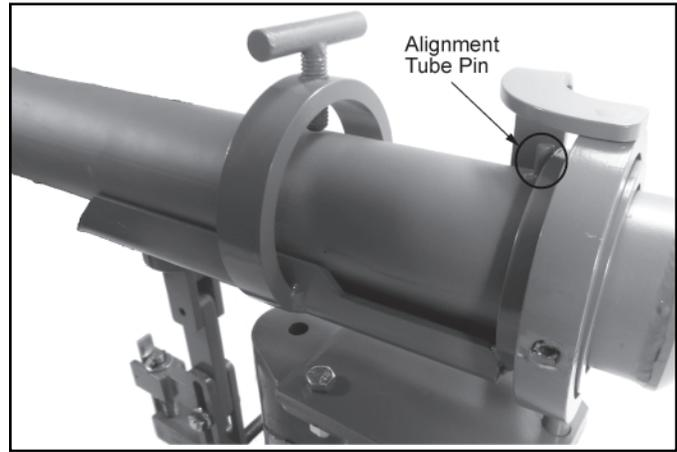

Figure 2.
The bracket has a vertical adjustment of ± 1 inch, an axial rotation of 360° , and angular adjustments of $\pm 7^\circ$ on both the vertical and horizontal axis. Since positioning the bracket in reference to the socket plate is essential for proper use of the bracket, an alignment tube is supplied to accurately simulate the burner position, see Figure 2.
3. Install the alignment tube in the bracket ensuring that the alignment tube pin (see Figure 2) is in contact with the gimbal ring of the bracket. This will replicate the burner position and allow the proper working distance needed for the burner ball tip and the socket plate to maintain contact throughout the range of angle adjustments experienced when the burner is installed.